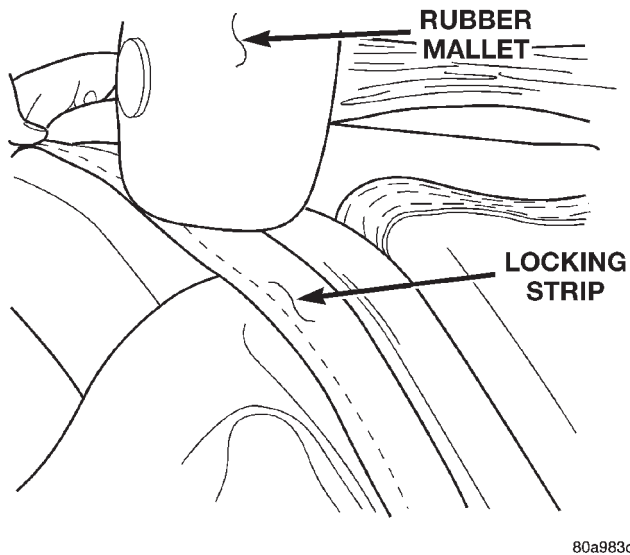

Fig. 4 Backlite Locking Strip
- (1) Remove the boot shelf and two sail springs from the old backlite assembly and install onto the new backlite assembly.
- (2) Place backlite locking strip on third bow.
- (3) Insert the locking strip into the channel of the number three roof bow. A rubber mallet may be required to set locking strip into channel (Fig. 4).